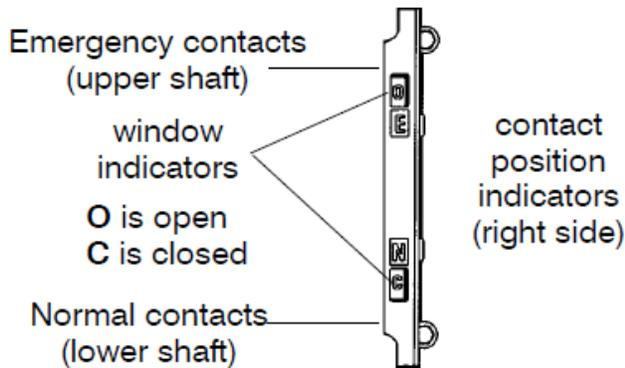

Figure 33. Contact position indicators
1. Bypass, isolate, and withdraw the transfer switch (pages 7-11). Then locate and remove the maintenance handle from the storage location (inside lower left side). Insert the handle into the hole in the molded hub on the left side of the operator of the transfer switch. See Figures 33, 34, 35 and Table C.